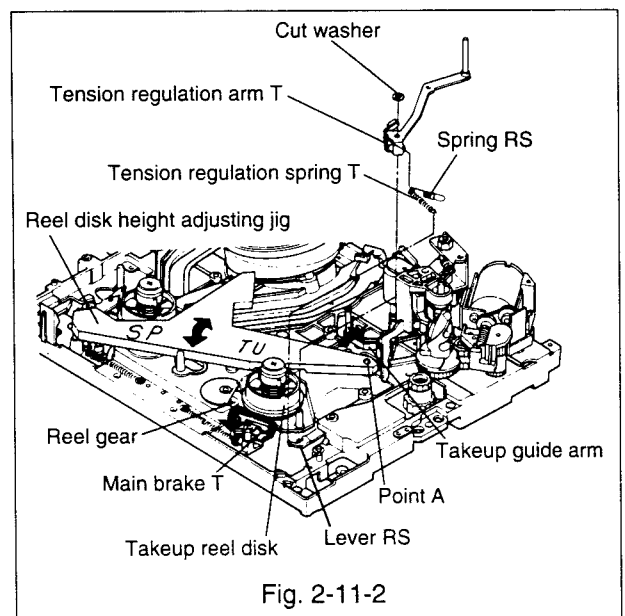

Fig. 2-11-2
2-11-2 Installation(Refer to Fig. 2-11-2, 2-11-3.)
- A. Turn the main brake T slightly counter-clockwise to release the takeup reel disk shaft. Slip the takeup reel disk onto the shaft so that the gear of the takeup reel shall mesh with the reel gear.(Refer to Fig. 2-11-2.)